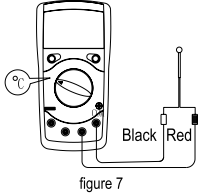

figure 7
G. The Model UT39C: Temperature Measurement (see figure 7)